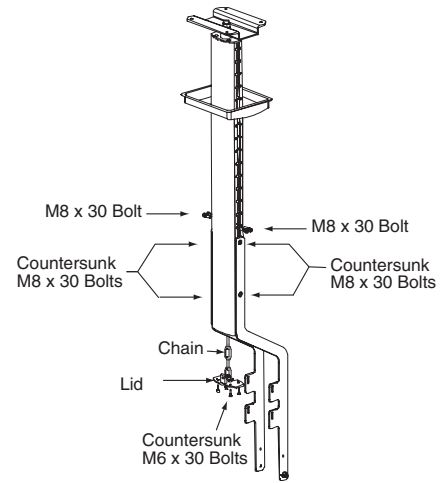

Figure 2
- ④ Fasten the chain to the lid using M8 x 16 bolt (see Fig. 2).
- ⑤ Attach lower lid to the aluminum pillar with four countersunk M6 x 25 bolts (see Fig. 2).